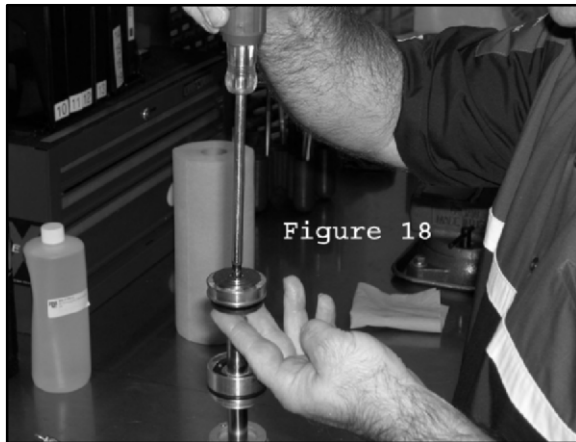

Figure 18
44. Slide only the tip of Phillips Head Screwdriver into hole at end of shaft. Hold the piston assembly under the top-out plate and lift upwards. Slide the piston assembly onto the shaft of the screwdriver. Remove the screwdriver from shock shaft while supporting the piston assembly. (Fig. 18) Slide a 12-inch tie wrap through the entire piston assembly. Secure the two ends of the zip tie together and remove the screwdriver. There are many pieces to the piston assembly, and the assembly order of these pieces is critical to the proper performance of your shock. This step ensures that the proper order is kept. Place piston assembly on a clean, lint free paper towel.